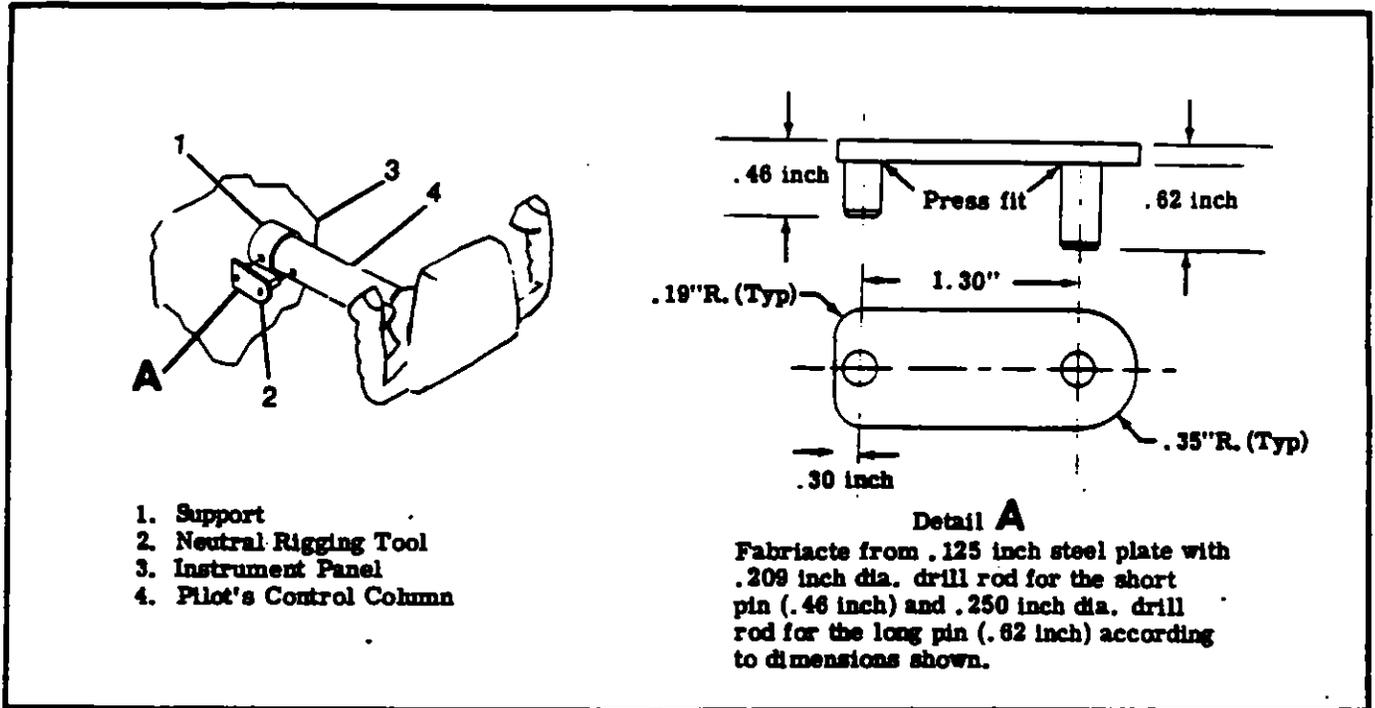

Figure 8-4. Control Column Neutral Position Rigging Tool
a. Lock control column in neutral position by installing neutral rigging tool (see figure 8-4).